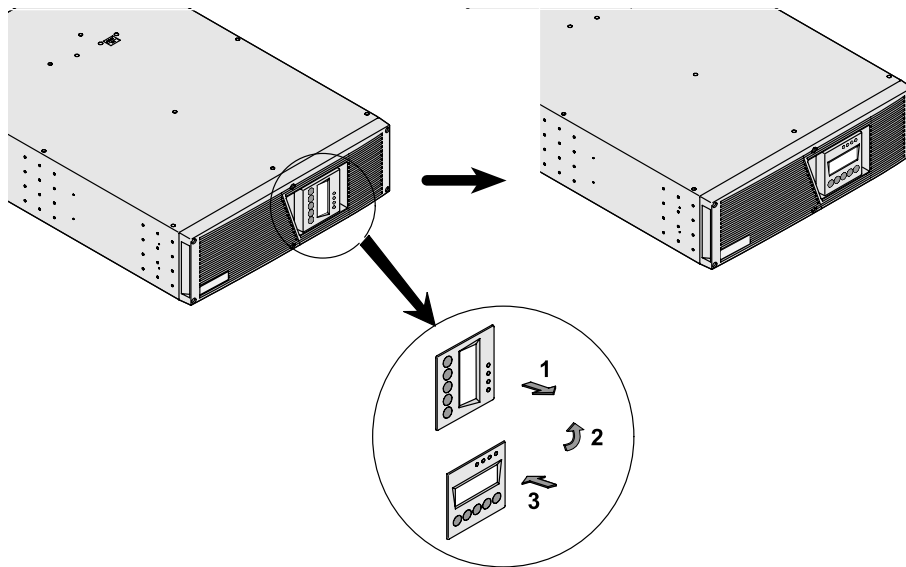

Figure 4. Adjusting the UPS Control Panel Orientation
1. Adjust the UPS control panel orientation by slightly pulling out the control panel and rotating it 90° counterclockwise (see Figure 4).